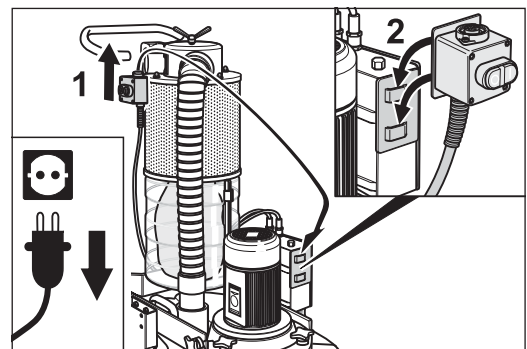

Fig. 52 Hook the on/off switch into the transport holder on motor switch box.
- 3 Remove the on/off switch from the chassis (fig. 52, 1) and hook it into the transport holder on motor switch box (fig. 52, 2).**